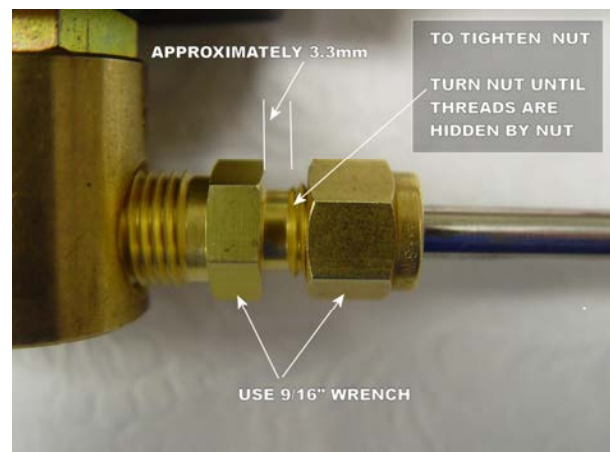

Figure 7-3. Tightening Tube Fitting
5. Tighten nut on tube as shown in figure 7-3.